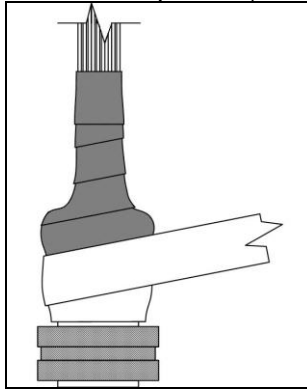

Figure 4
- 3.5.3 After the first full wrap is complete, continue wrapping with a 50% overlap over the top of the StretchSeal™ Tape. Use the line in the middle of Self-Fusing Silicone Tape as a guide and remove the release film as required. (see figure 4)